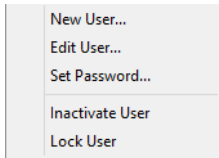

Figure C-7: User Tab Menu
1. Position the cursor on the account and right-click to display the Tab menu (Figure C-7).